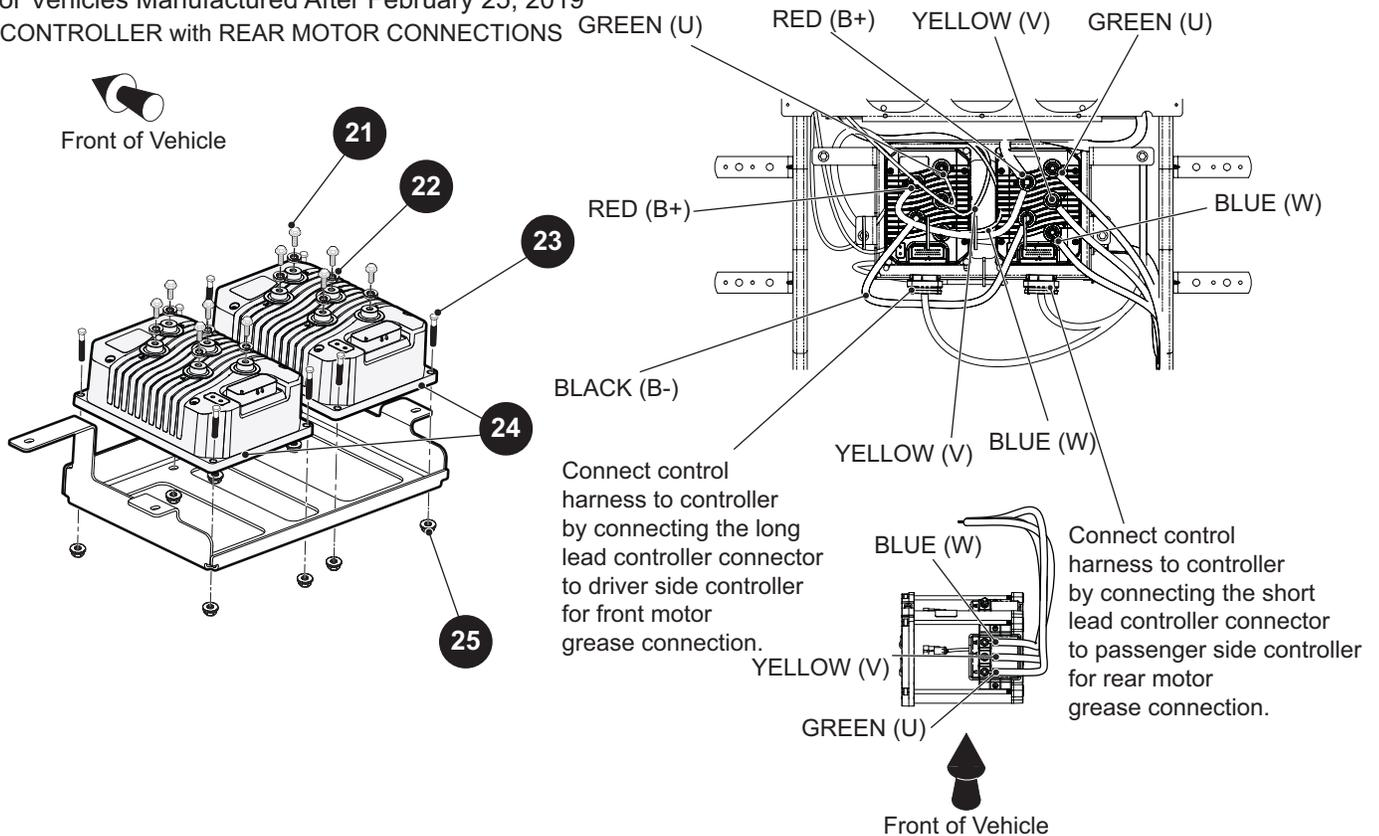

Fig. 11 Controller Removal
2. Remove the bolts (9,21) and flat washers (13,22) (Ref. Fig. 11).
3. Remove the connectors from the controller (10,24) (Ref. Fig. 11).
5. Remove bolts (12,23), washers (11) and lock nuts (14,25) (Ref. Fig. 11).
6. Remove the controller (10,24) from the controller bracket (Ref. Fig. 11).
7. Mount new controller (10,24) and connect wiring (Ref. Fig. 11).